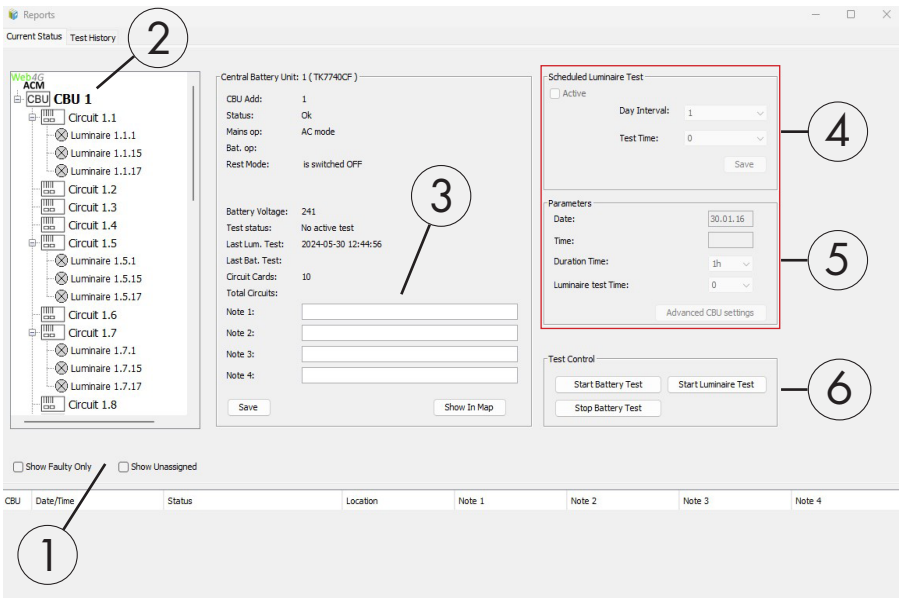

Figure 6. Reports Window - Current Status - CBUs
2. You can filter the CBU list to show only the faulty CBUs, or to include the unassigned (=not set on a layout map) CBUs by checkin the corresponding boxes (No. 1 in Figure 6).
3. Select a CBU from the CBU list (No. 2 in Figure 6). The CBU status is now displayed on the main view of the window.
4. You can now add Notes for the selected CBU, by simply typing in the notes, and clicking the SAVE button (No. 3 in Figure 6).
5. Please note, that Luminaire Test Scheduling and Parameters are disabled from the WebACM 1.2 (No 4 and 5 in Figure 6). The tests can be scheduled from the CBU's user interface. See the User's Guide for the CBU for details.
6. To start a battery or luminaire test, click the corresponding button (No 6 in Figure 6).